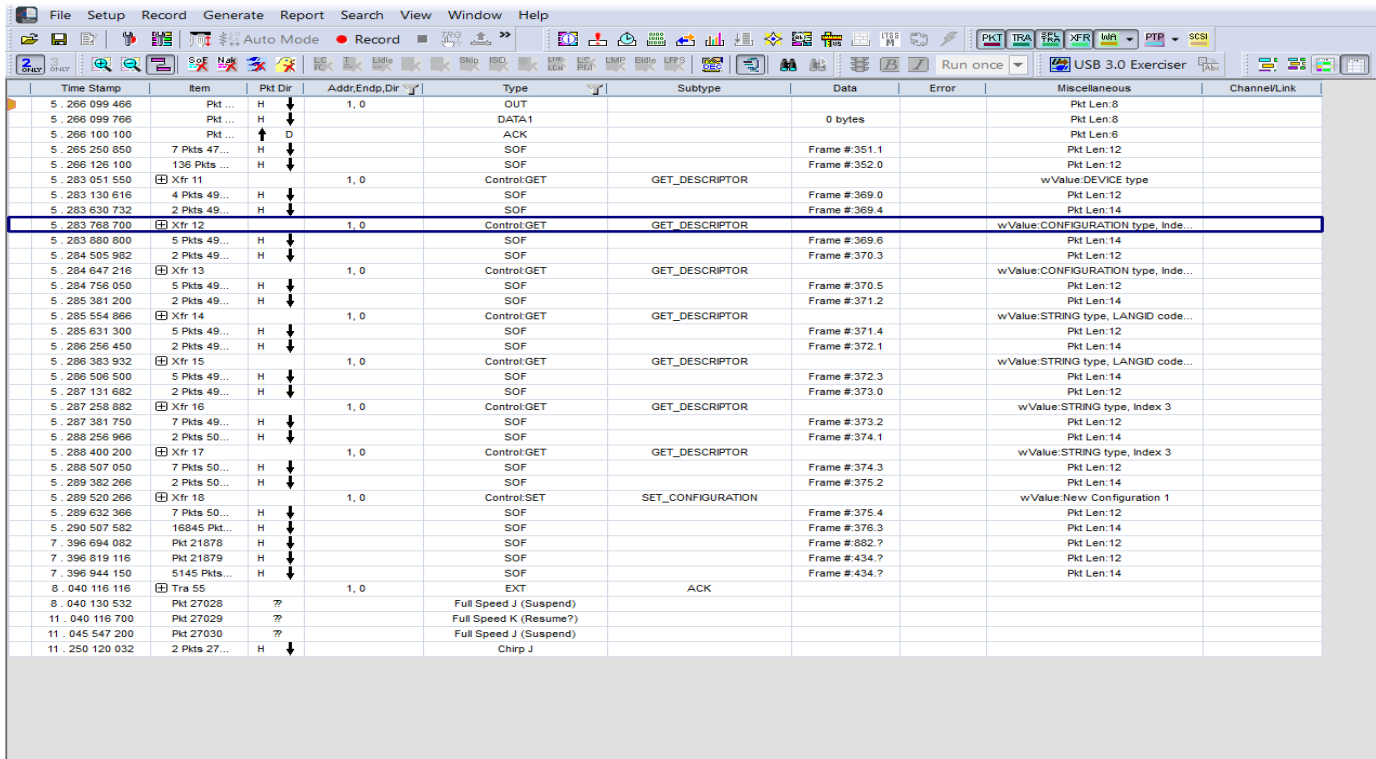

Figure 5.40: Spreadsheet View (Black And White)
- Select **View > Trace Views > Spreadsheet (B/W)**. See Figure 5.40 on page 156.